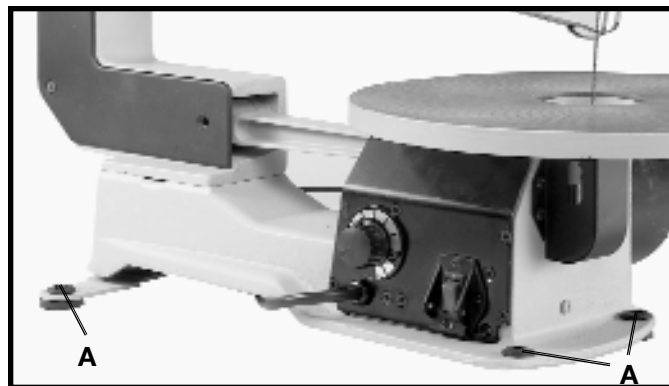

Fig. 16
**WARNING:** Your scroll saw **MUST** be securely fastened to a stand or workbench using the holes in the four rubber feet, three of which are shown at (A) Fig. 16. **IMPORTANT:** When mounting the saw to a stand or workbench **DO NOT** over-tighten mounting bolts. Leave some cushion in the four rubber feet (A) for absorbing noise and vibration.